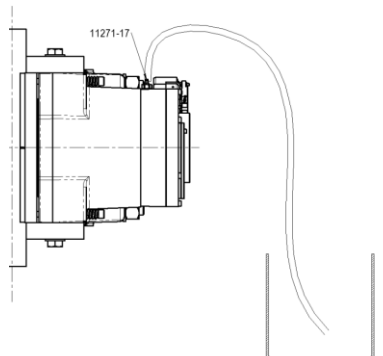

Fig. 2.5
1. Connect the bleed screw 11271-17 to a 6mm ID flexible hose and put the end of the hose into a container Fig. 2.5.